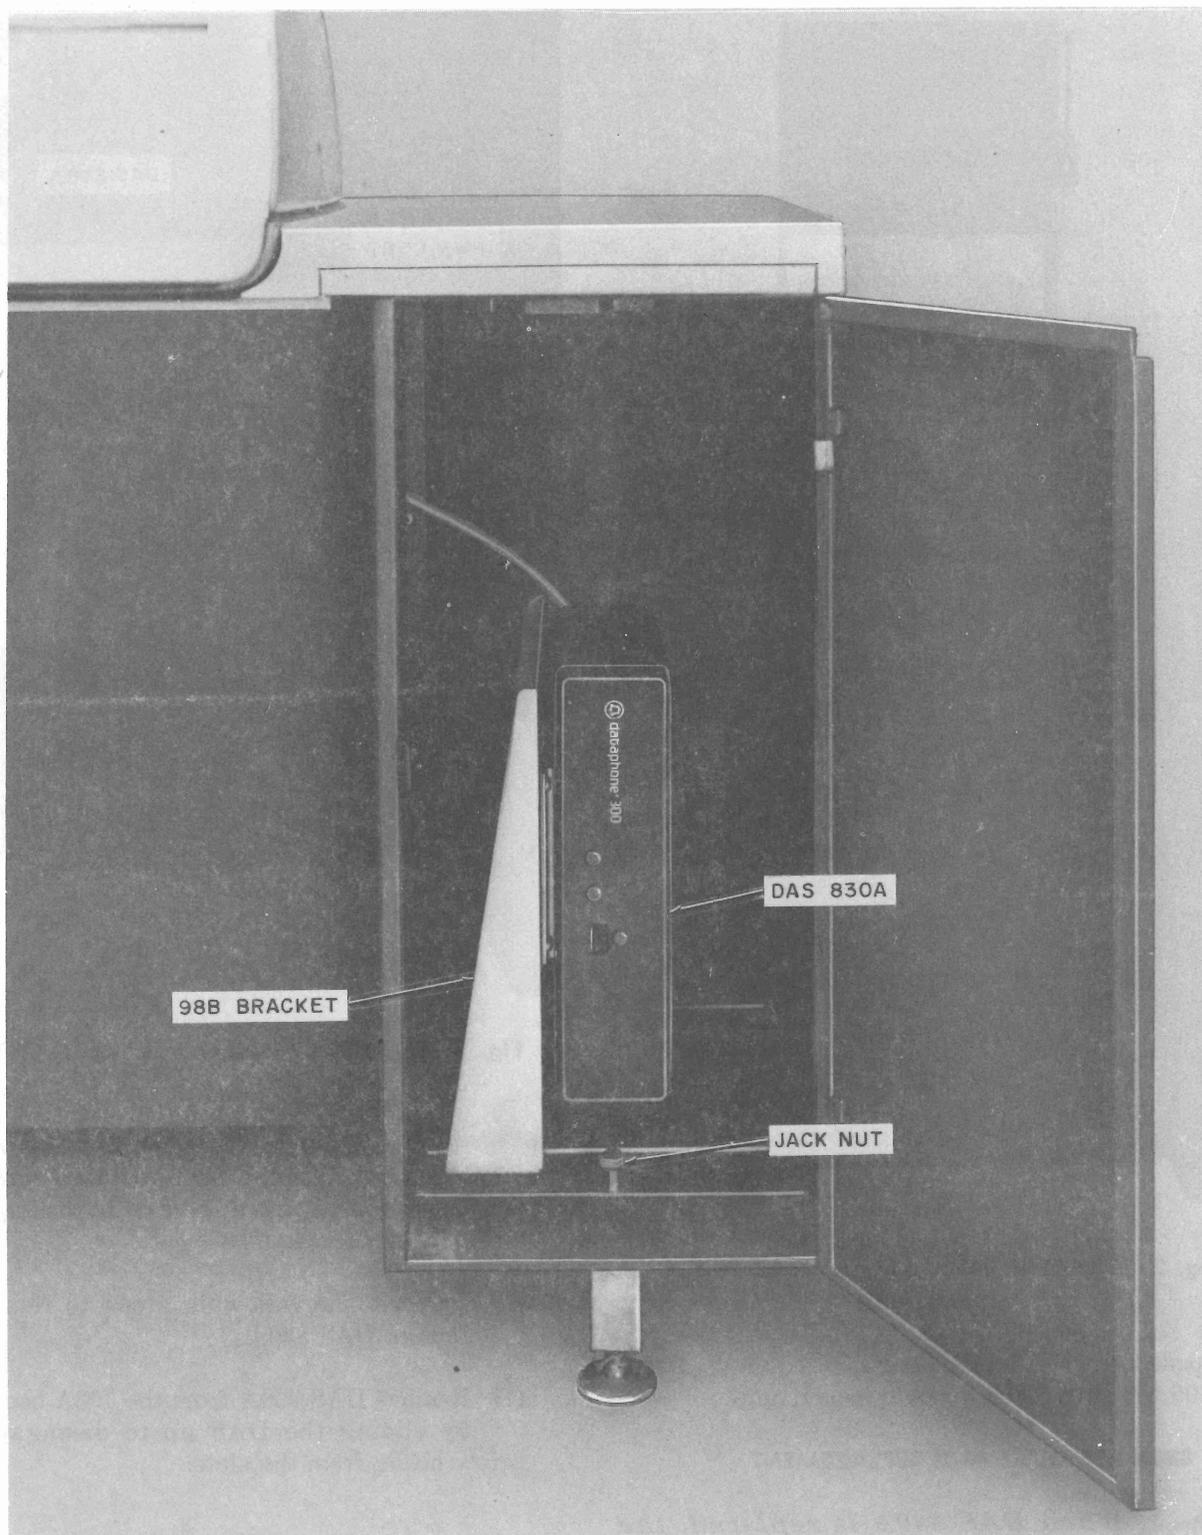

Fig. 4—DAS 830A Mounted in a Model 37 TTY
2.05 DAS 830A is located behind the door in the right pedestal of the TTY (Fig. 4). Access to DAS 830A is obtained by opening the pedestal door. The spring-loaded fastener that secures the 98B bracket in the TTY can be released and the bracket (with backboard and DAS) removed from